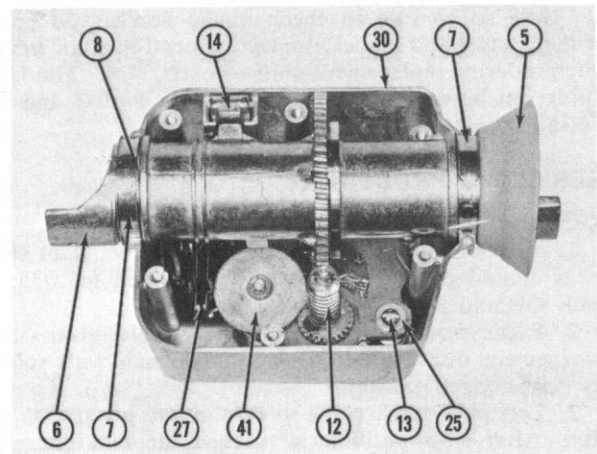

Fig. 53. Internal Components—Model U-100 Rotator Unit.
4. Contact spring (Item No. 27) in the rotor unit must make contact only when cam lobe (Item No. 41) comes in contact with the switch. If shaft assembly (Item 6) is removed from the rotor unit, cam lobes must be ½ turn away from contact points in end-stop position in both directions. See Fig. 53.